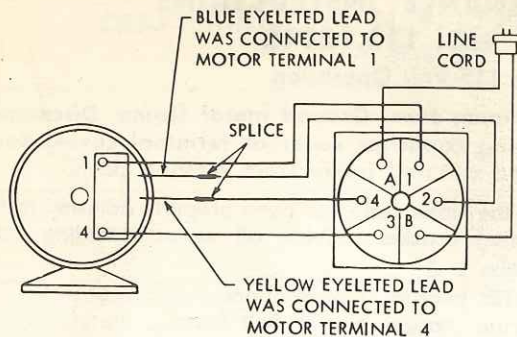

Figure 5
6. The motor may be operated with a reversing switch (9M 2982 in catalog). Connect the switch as shown in figure 5. The motor must come to a complete stop before reversing can be accomplished.